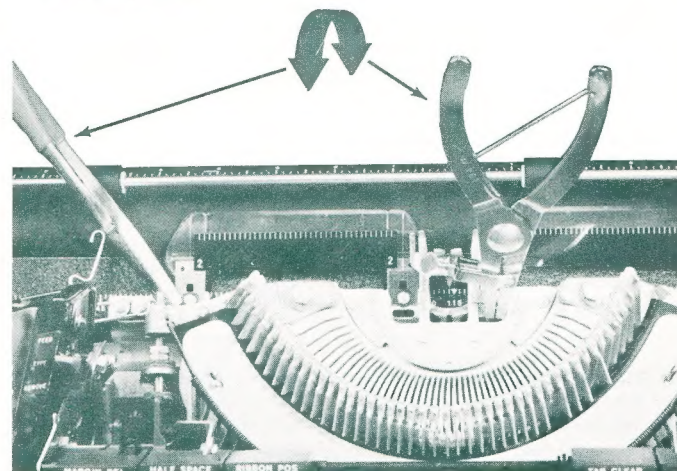

Figure 1
1. To form the cardholders away from the platen, use the grip ring pliers on the center supports and the duck bill pliers on the outside supports (Fig. 1).